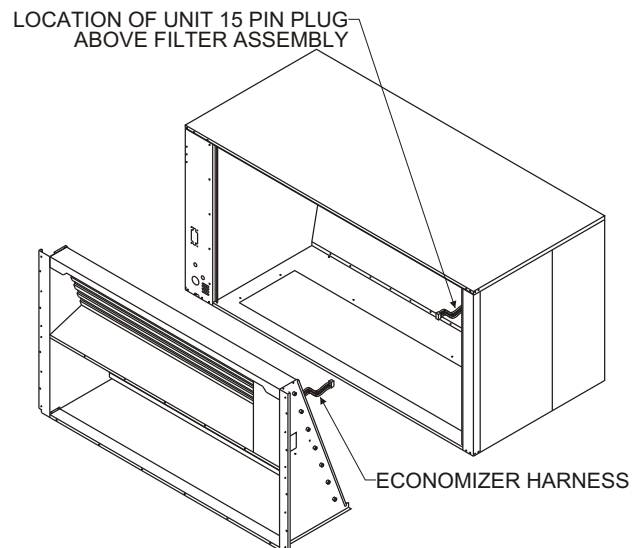

Figure 3
4. Set economizer partially into opening of the unit. Route economizer wiring harness up to unit plug and firmly connect it to the unit 15 pin connector ensuring plug and receptacle snap lock together. Secure harness up out of the way of damper blades to ensure proper operation and free travel of vane movement after fully installed. See Figure 3.